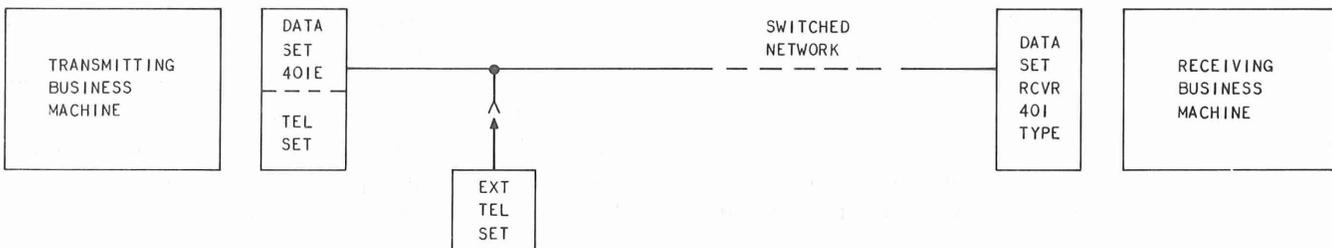

Fig. 2—Typical Equipment Arrangement
2.01 *Equipment Layout:* A typical arrangement of equipment consists of the business machine, the data set, transmission facilities, a data set 401-type receiver, and a receiving business machine. A typical arrangement of equipment is shown in Fig. 2. An extension telephone can be connected if desired.